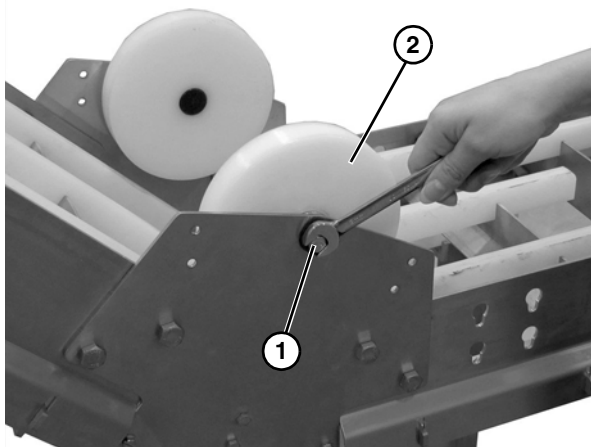

Figure 54
3. Remove the cap screw (**Figure 54, item 1**) and the hold down roller (**Figure 54, item 2**). Repeat on opposite side of the conveyor.